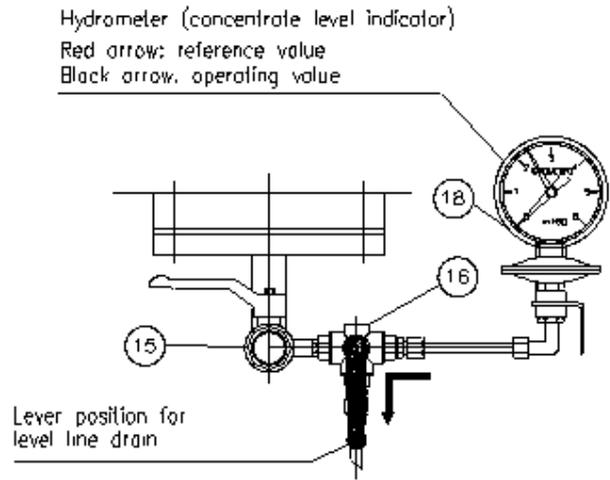

Figure a.3
1. Close valve (16) as shown in figure a.3, so to exclude connection between tank and instrument.